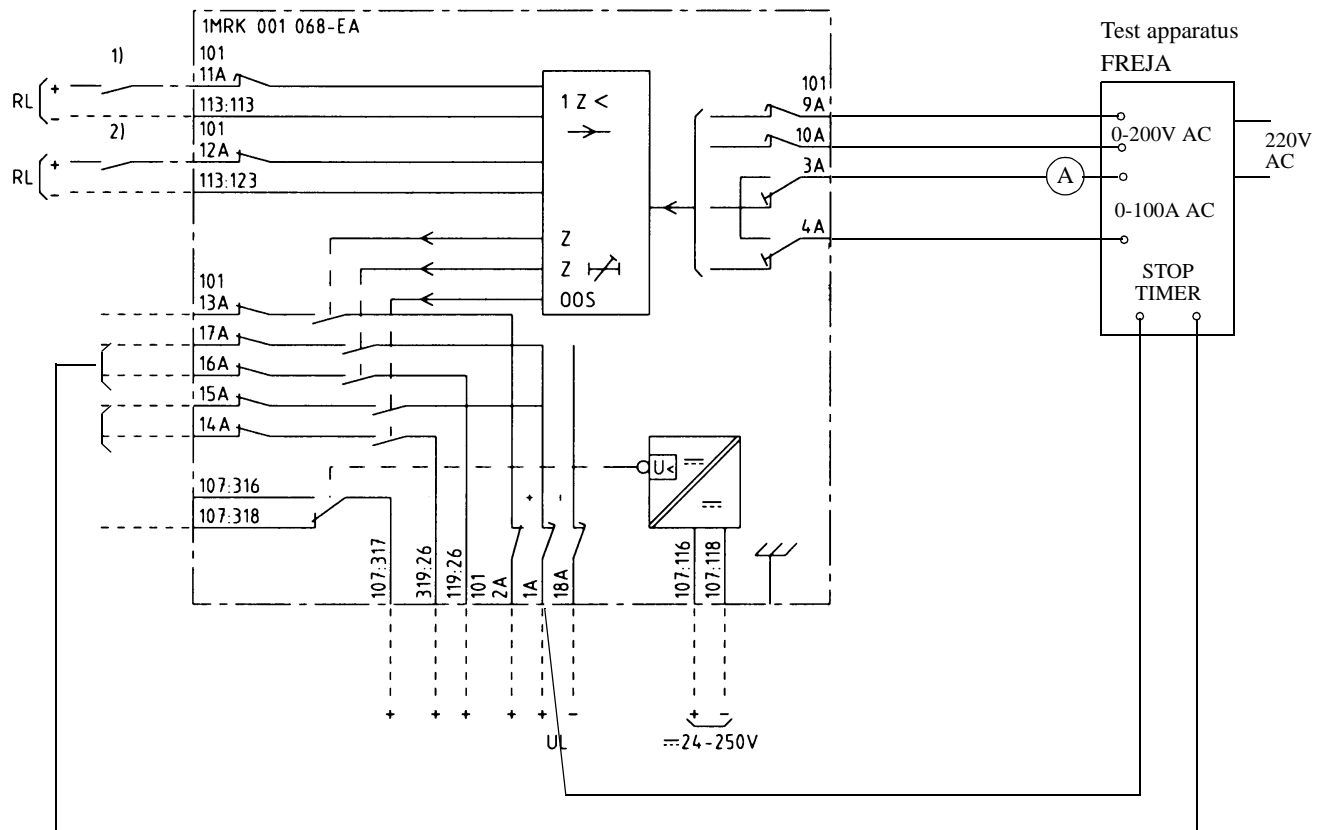

Fig. 40 Connection of test apparatus for testing of phase L1
**1. Connections:** Connect the test set according to figure 40 to test the relay functions for phase L1 and insert the test-plug into the test switch.